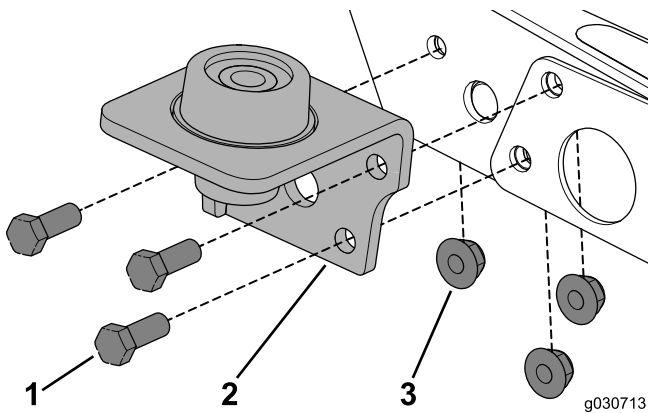

Figure 17
1. Remove the existing hardware and use the 3 bolts (3/8 x 1 inch) and flange nuts to secure the mount to the machine (Figure 17).